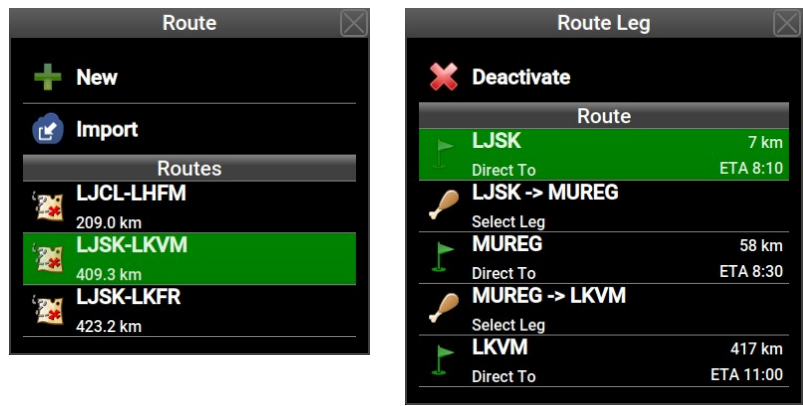

Figure 31: Route selection and activation window (left) and route manipulation window (right).
- When there is no active route, Nesis opens the route selection/activation window. See Figure 31 left. The window allows creation of a route, importing a route from USB stick or selection of one of existing routes from a list.
- However, if some route is already active, Nesis opens a route manipulation window. See Figure 31 right.
With no active route a window opens, like shown on Figure 31 left. Routes are sorted alphabetically. Route name is typically defined by a takeoff - landing airfield pair.
- Select the *New* option from Figure 31 left.
When the **New** option is selected, see Figure 31 left, Nesis switches to a special *Route Planning* screen. Touch screen is used extensively in planning.
- Insert the stick into Nesis and select the *Import* command. See Figure 31 left.
When the *Route* command is issued and some route is already active, a different window appears. See Figure 31 right on page 52.